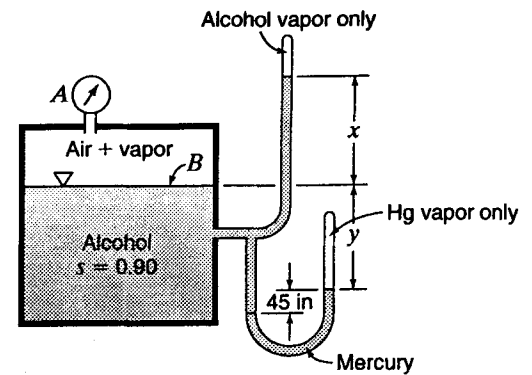

Figure X3.5.8
3.9 In Fig. X3.5.8 assume the following: atmospheric pressure = 930 mb abs; vapor pressure of the alcohol = 110 mb abs;  $x = 3.30$  m and  $y = 1.60$  m. Compute the reading (a) on the pressure gage and (b) on the manometer.